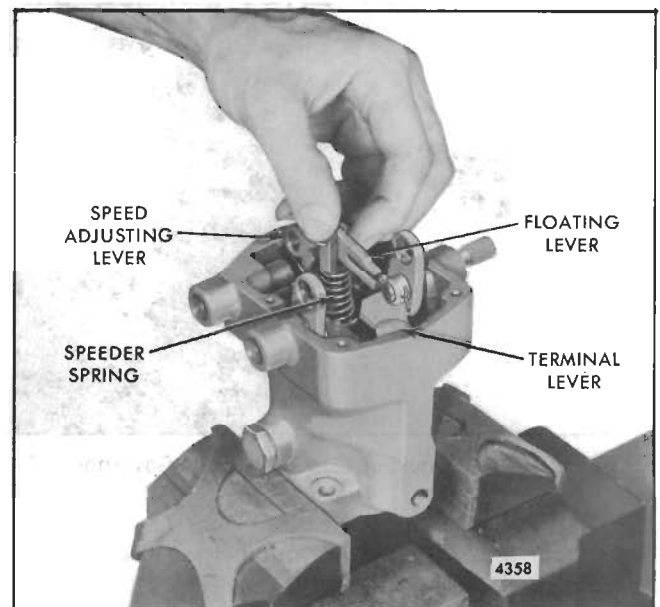

Fig. 10 - Removing Speed Adjusting Lever, Spring Fork, Speeder Spring and Pilot Valve Plunger Assembly
12. Lift the speed adjusting lever, floating lever, spring fork, speeder spring and pilot valve plunger as an assembly from the governor housing as shown in Fig. 10.
13. Remove the pilot valve plunger thrust bearing (18) and the roll (spring) pin (15) from the governor housing.